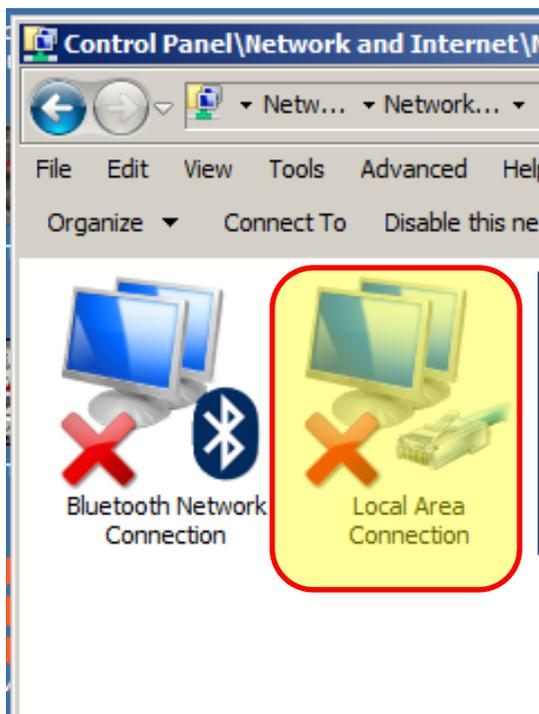

Figure 4-8
- 5) Double click the “Local Area Connection” icon highlighted in yellow and shown in Figure 4-8. Choose “Internet Protocol Version 4 (TCP/IPv4)” and click the “Properties button”. **The Novakon CNC computer must not be connected to any other networks. In other words, the Novakon CNC Mill network must be the only network loaded.**